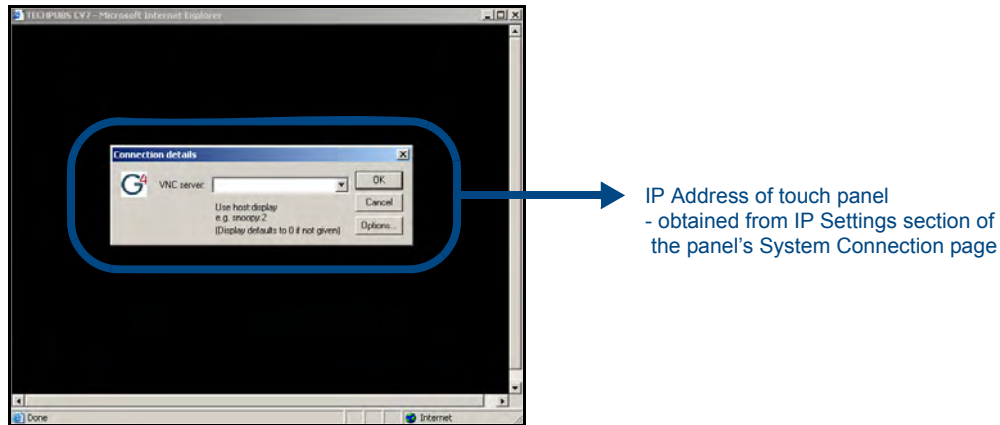

FIG. 76 Connection Details dialog
10. Some circumstances might open a Connection Details dialog (FIG. 76) requesting a VNC Server IP Address. This is not the IP of the Master but of the target touch panel. Depending on which method of communication you are using, it can be found in either the: